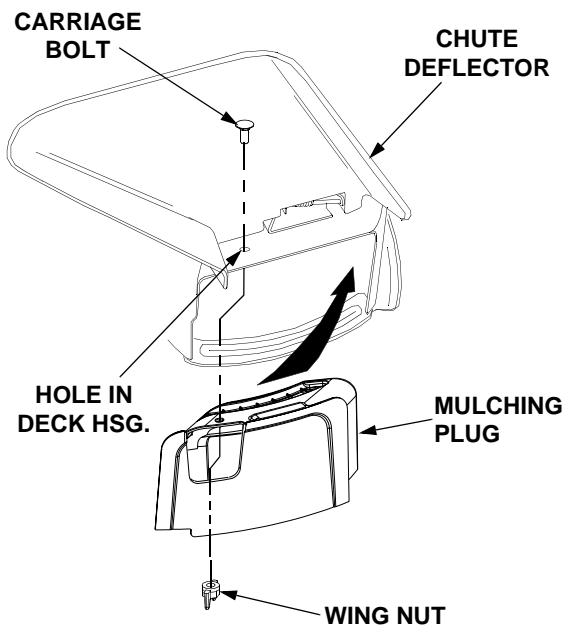

Figure 65
2. Lift the chute deflector upward and insert the mulching plug into the discharge opening of the deck (Refer to Figure 65).
3. Position the mulching plug so that its top hole aligns with the hole in the top of the deck housing. Install the carriage bolt through both surfaces and secure with the wing nut (See Figure 65).